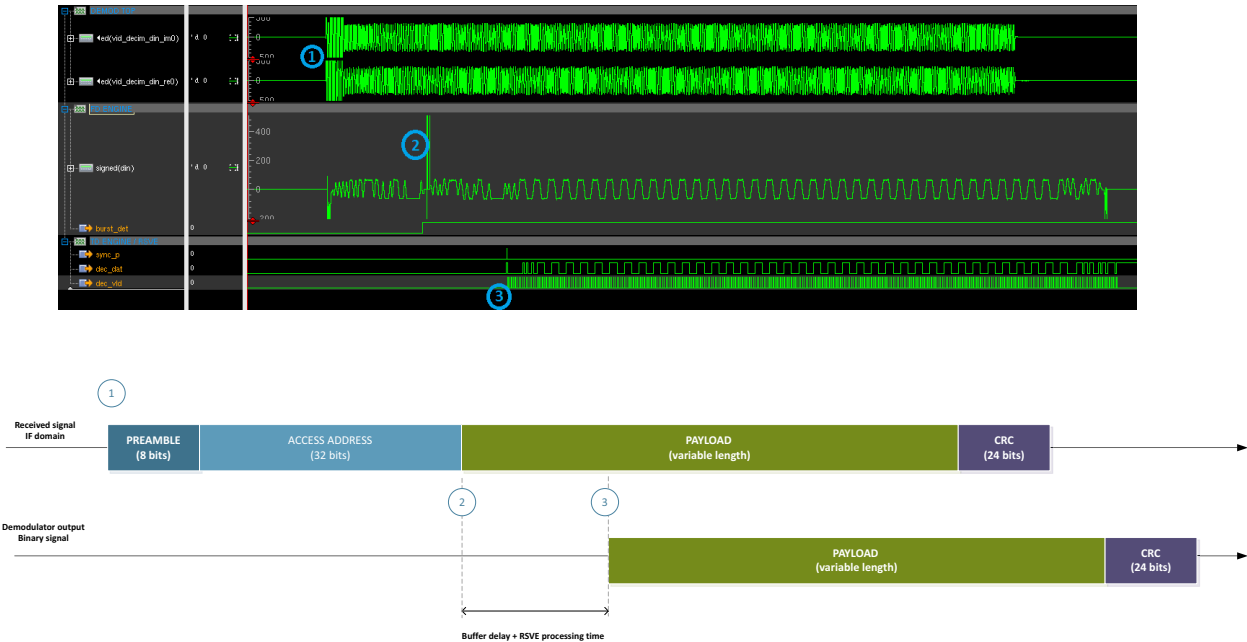

Fig 135. Demodulator operation
During the frame reception (see Figure 135: demodulator operation):
- Decoded data are sent to the link layer. Note that only frame payload and CRC bits are sent to the link layer (see Figure 135 “Demodulator operation”).